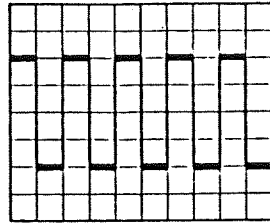

Figure 2-6
- Set the SWEEP FREQ. Hz switch to 10-100 range and adjust SWEEP VARIABLE control to obtain the display as shown in Figure 2-6.